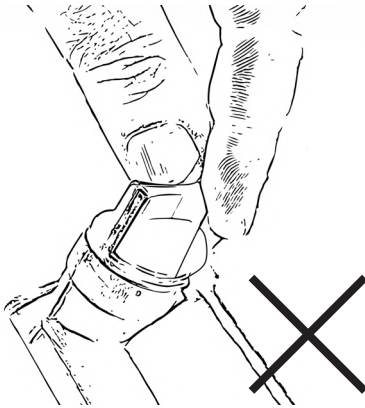

Figure 4
Never turn the oil filler plug with connected dipstick into the thread when reading the oil level. This leads to an incorrect measurement result, Fig. 4.
- Immerse the dipstick completely in the oil. **Never** turn the dipstick into the thread, Fig. 4.